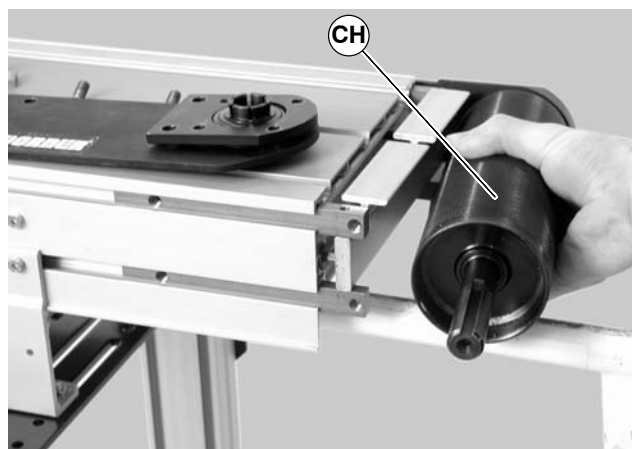

Figure 72
7. Slide the drive pulley (CH of Figure 72) out of the headplate on the opposite side.